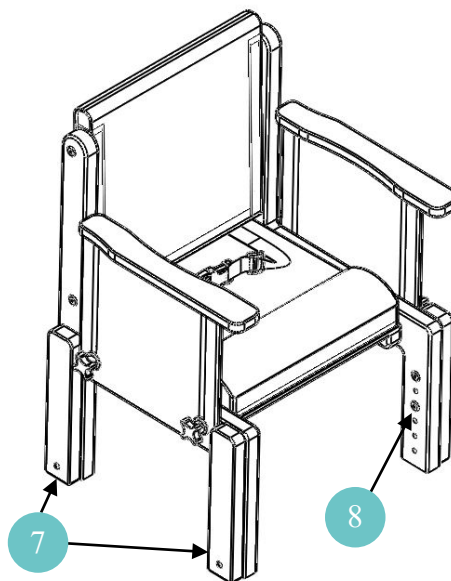

Figure 3
- To adjust the seat height, reposition the leg outriggers (*Ref. 7 of Figure 3*) using the tool provided for this purpose.
- There are 2 screws per leg (*Ref. 8 of Figure 3*).